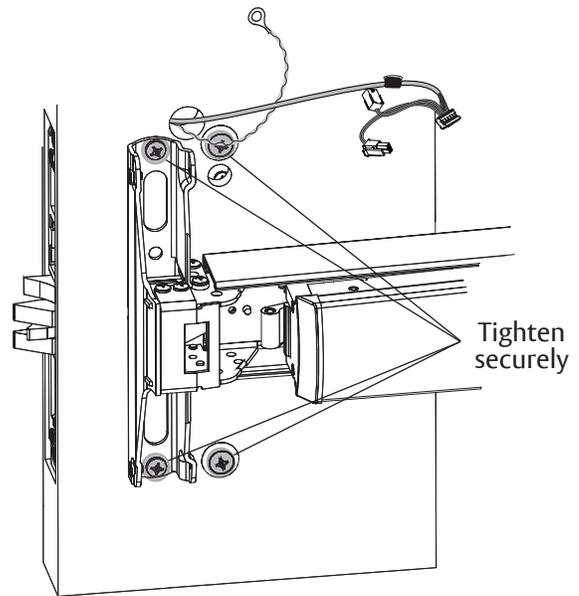

Figure 14b
4. Tighten all (4) screws (Figure 14b).